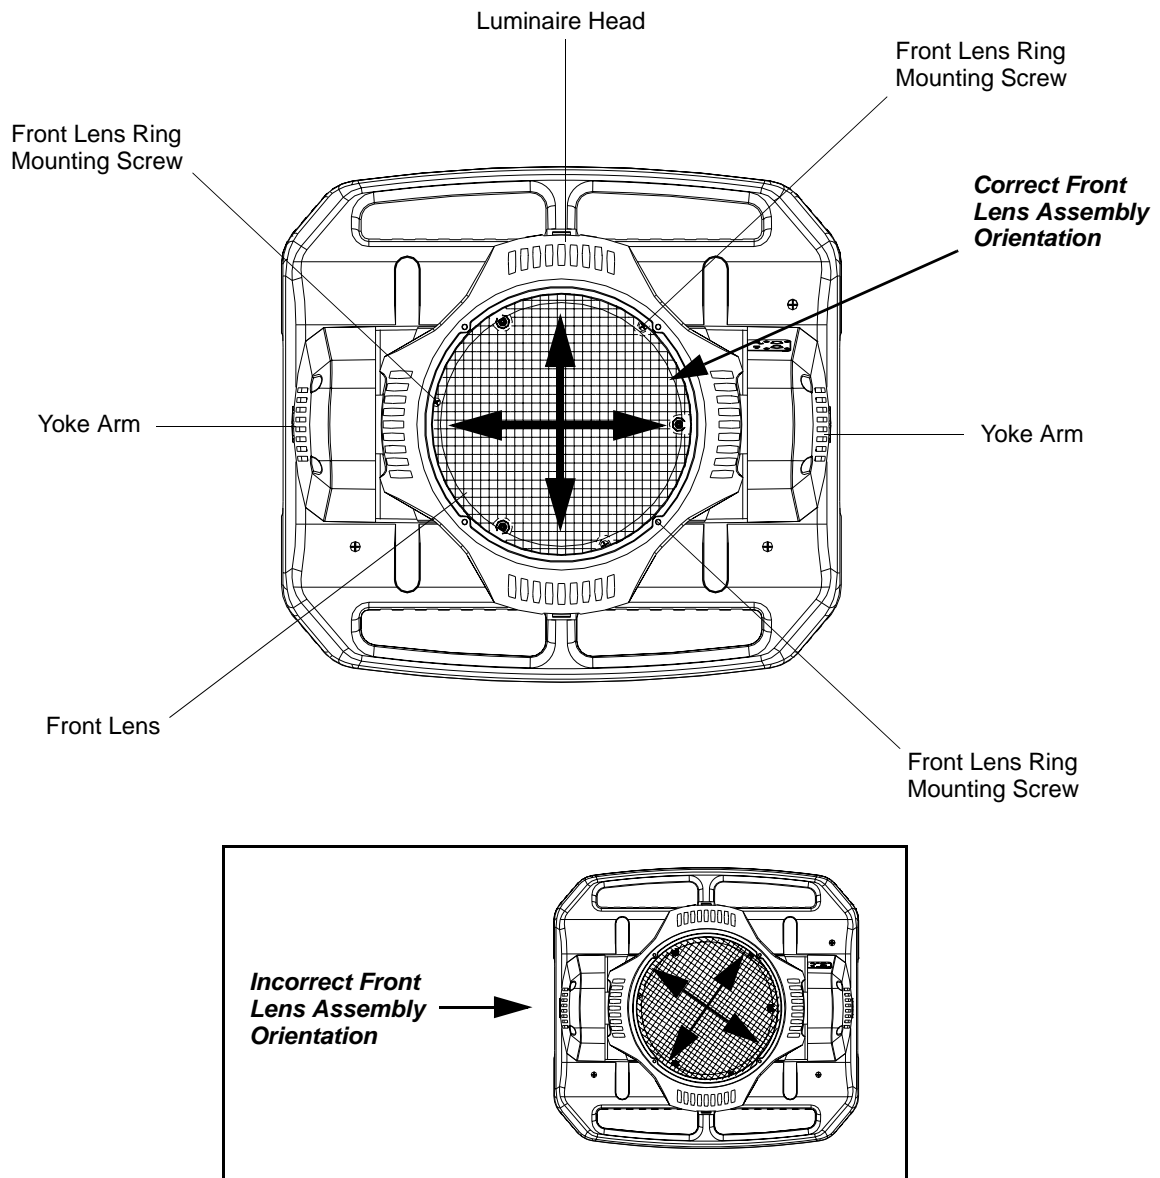

Figure 2-4: Front Lens Orientation
Step 8. Once cleaning is complete, reassemble by performing Steps 6 through 2 in reverse order. Be sure to orient front lens as shown in Figure 2-4.